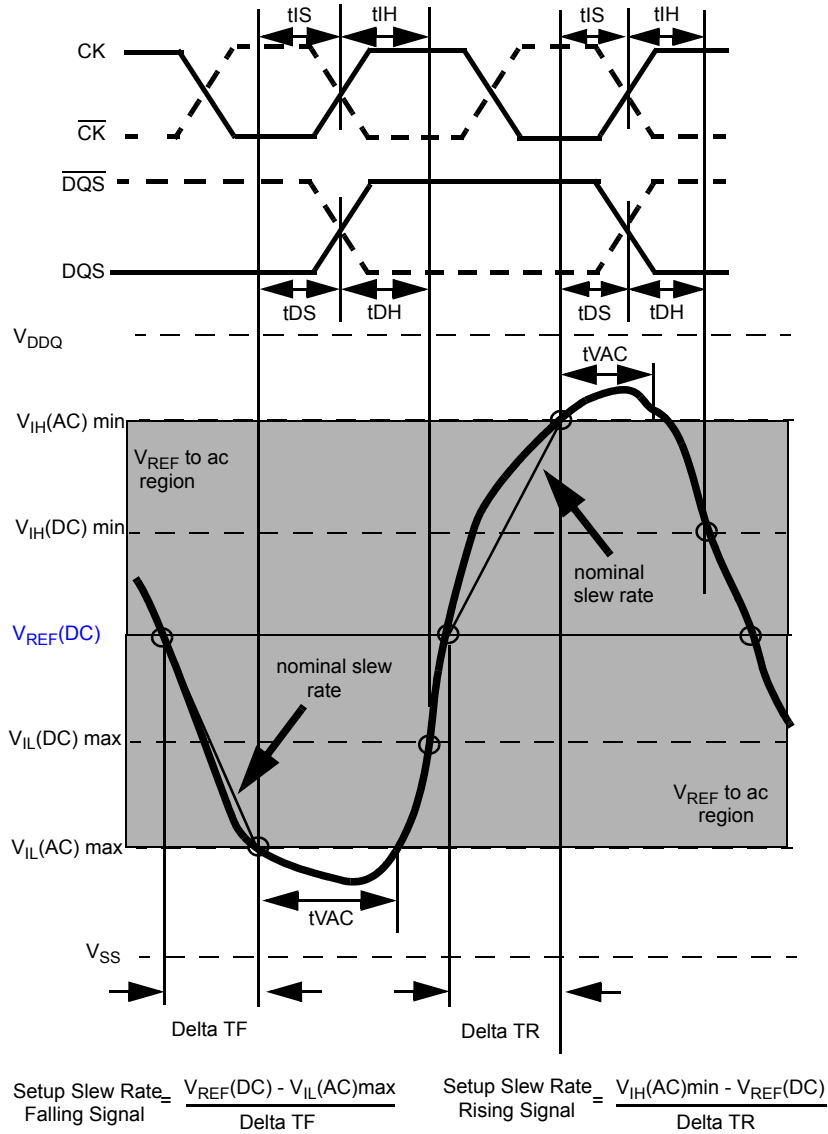

Figure 25 - Illustration of nominal slew rate and t_{VAC} for setup time t_{DS} (for DQ with respect to strobe) and t_{IS} (for ADD/CMD with respect to clock).
Setup (tDS) nominal slew rate for a falling signal is defined as the slew rate between the last crossing of VREF(DC) and the first crossing of VIL(AC)max (see Figure 25). If the actual signal is always earlier than the nominal slew rate line between shaded 'VREF(DC) to ac region', use nominal slew rate for derating value. If the actual signal is later than the nominal slew rate line anywhere